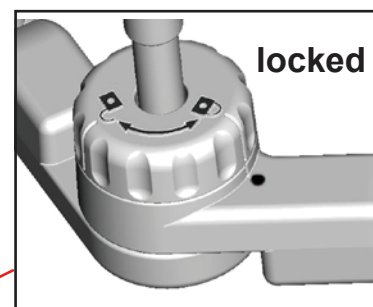

Figure 2A
- To complete your barrier, turn the hinges at the base of the barrier to the closed lock position to fix their position, as per **Figure 2A**.